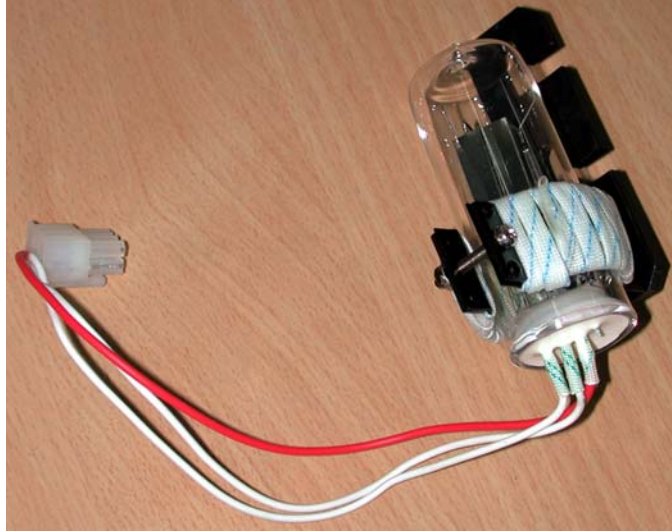

Figure 7.8 Deuterium Lamp
3. Replace the pre-aligned lamp with a lamp (Figure 7.8) provided by UNICO or an authorized UNICO Service Provider. This comes pre-assembled with lamp socket.